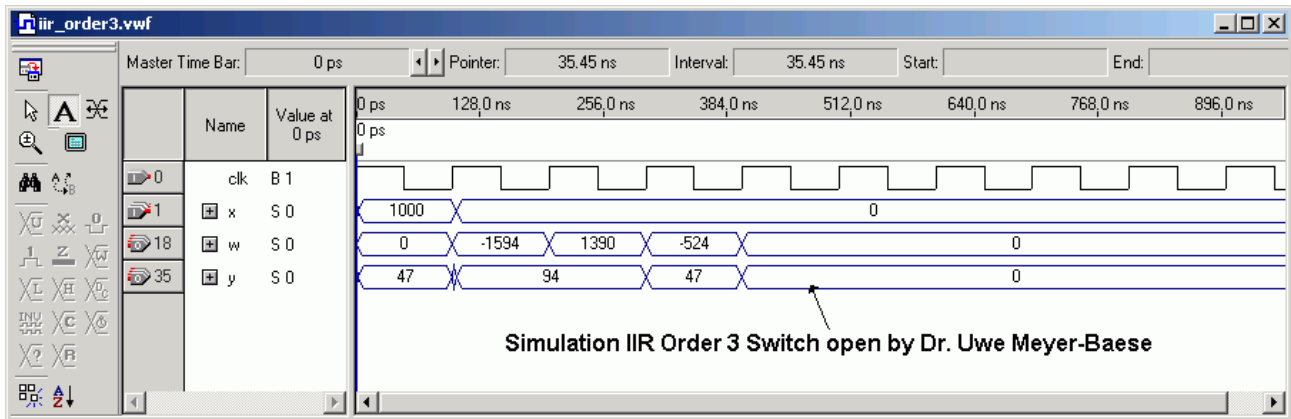

Figure 6: Third-Order IIR Filter simulation with open switch.
- Develop the `iir_order3.vhd` design. Use a new project `iir_order3`, but the same entity ports and data types as for the first order design. To verify your coefficient coding use the simulation with open switch and match Figure 6. The forward coefficient scaled by 1000 appear at the output `y[n]` and the feedback coefficients at `w[n]`.